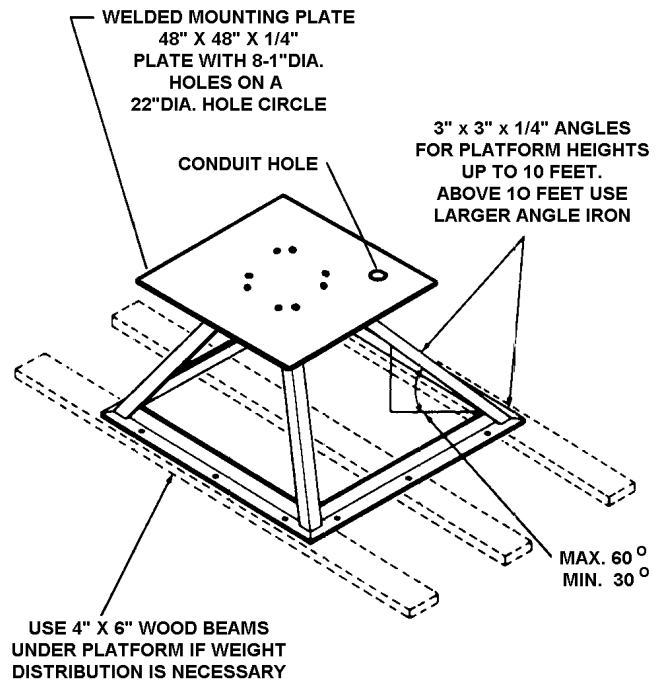

Figure 4
- Base mounting plate and hardware (see Figures 4 and 5).
A sturdy mounting base is provided as part of the siren. A mounting plate must be fabricated as part of the siren mount. See Figures 4 and 5 for details. The plate must have eight 1-inch holes on a 22-inch diameter bolt circle. Mounting to this plate is then accomplished by means of 1-inch bolts, nuts and lock washers.
If the roof composition and/or span loading present a problem, a sub base should be used to distribute the weight. This base can consist of several 4 x 6 inch wood beams of sufficient length beneath the angle iron platform (see Figure 4) to spread the roof loading.
The siren may be mounted as shown on a support or platform on a flat roof. See Figure 4 for details of construction for a suggested roof mount. The siren should be mounted higher than the highest snow level anticipated at the installation.